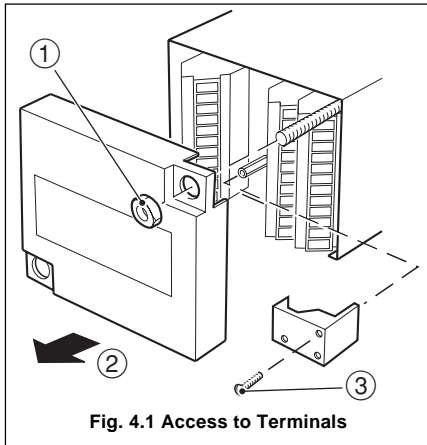

Fig. 4.1 Access to Terminals
- The terminal blocks can be removed from the main p.c.b. when making connections. Before removing any module note its position – see Fig. 4.1.